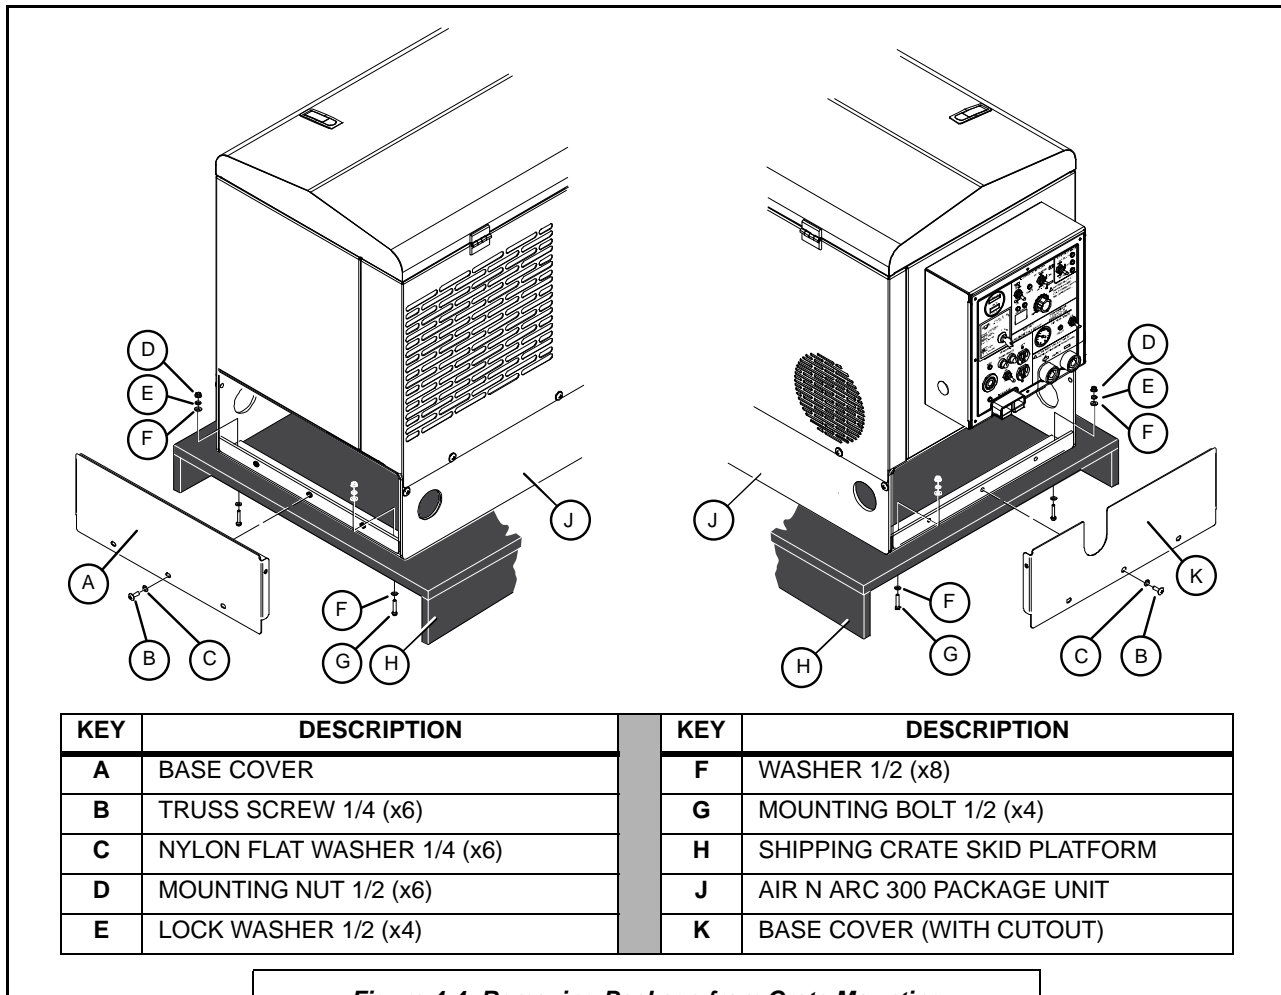

Figure 4-4: Removing Package from Crate Mounting
1. Refer to *Figure 4-4*. Remove the truss screws [B], nylon flat washers [C] in order to remove access panel covers ([A] and [K]) found on both side ends of the unit.